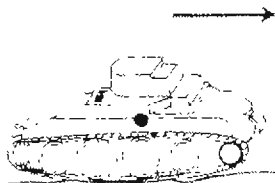

Figure 27
b. Aiming Point for Moving Targets.--The aiming point for moving targets is also the center of mass of the target (fig. 27). The vertical axis of the sight must always be ahead of the center of mass of the target.